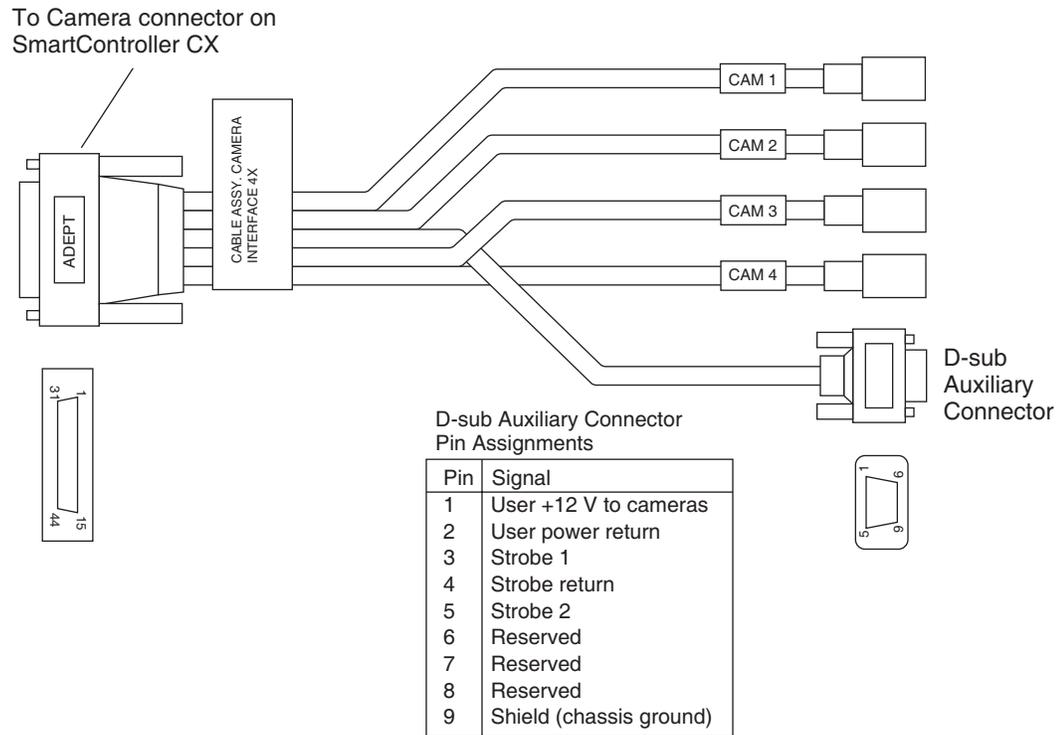

Figure 4-2. Four-Camera Breakout Cable For RS-170 Cameras
Similarly, due to the current limitation of the sAVI board, it cannot supply enough current to operate all four cameras from the four-camera cable. You must supply the external power to operate the cameras when using this cable. This power must be routed through the 9-pin D-sub connector, see Figure 4-2 on page 71 and Table 4-2 on page 75 for pin information. Connect the power and ground on the breakout cable to a 12 V power supply producing 2.0 A at 12 VDC.
4. Connect the power supply and strobe lamps through the 9-pin D-sub connector (see **Figure 4-2 on page 71** and **Table 4-2 on page 75** for pin assignments).